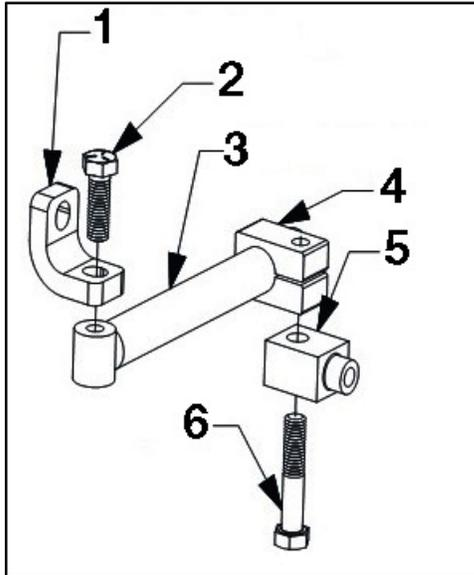

Fig. 6: Mounting arm subassembly
8. Use (1) 1/2-13UNC grade 5 cap screw 1-1/2" long to fasten the Mounting Arm Bracket to the Mounting Arm Weldment. Use (1) 1/2-13UNC grade 5 cap screw 2-1/2" long to fasten the Mounting Arm Retention Block to the Mounting Arm Capturing Block. Ensure the unthreaded hole in the Mounting Arm Capturing Block is against the Mounting Arm Retention Block. This hardware can be left loose when not in use. Repeat this step for all (8) Mounting Arms (Fig. 6).